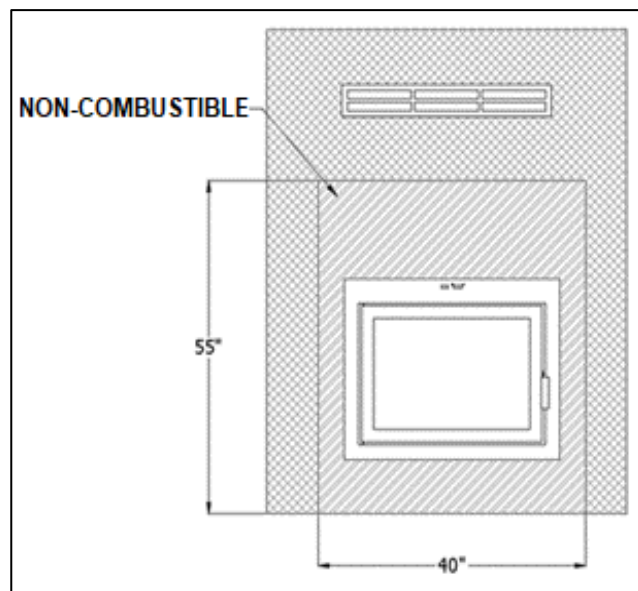

Figure 3-41: Front Chase for Clean face Linear Louver Configuration
**Refer to Figure 3-41 for single linear louver front chase.**